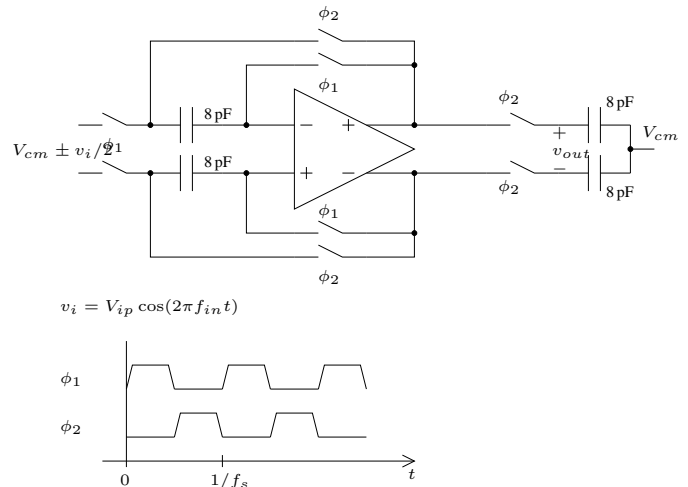

Figure 3: Sample and hold circuit
- Sample and hold:** Design the sample and hold circuit in Fig. 3 using the fully differential folded cascode opamp designed above. Use ideal switches with 1 k Ω on resistance. Use $f_s = 4$ MHz and $f_{in} =$